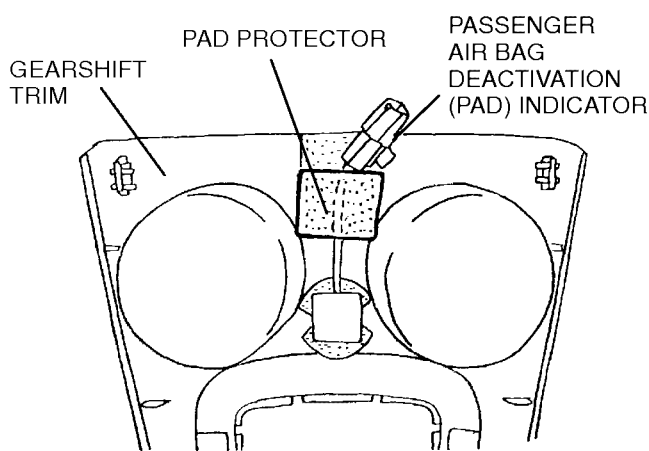

FIGURE 17
7. Affix the passenger air bag deactivation (PAD) indicator wiring harness to the pad protector (refer to Figure 17).